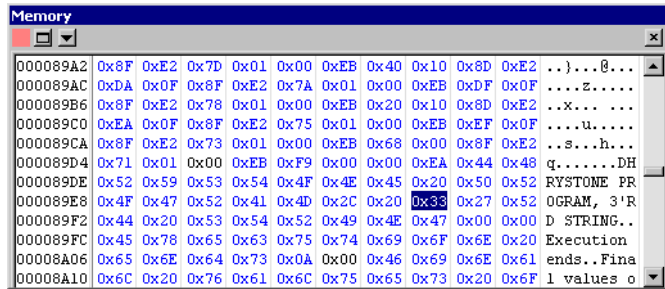

Figure 7-7 Example memory display
6. Use the **Pane** menu, in the Memory pane, to set the start address to `0x89A2` and display the ASCII values, shown in Figure 7-7 on page 7-20.